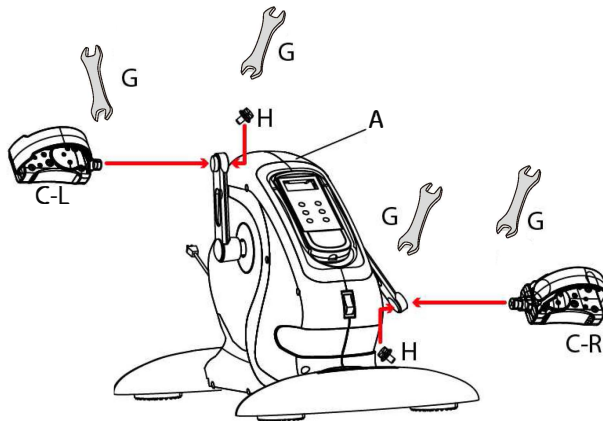

Fig. 4
1. Install the left pedal (C-L) and one screw (H) on the main body (A) as shown in Fig 4.
2. Screw well using the pedals key (G)
3. Install the right pedal (C-R) and the other screw (H) on the main body (A) according to the same procedures as step 1 and 2 above.